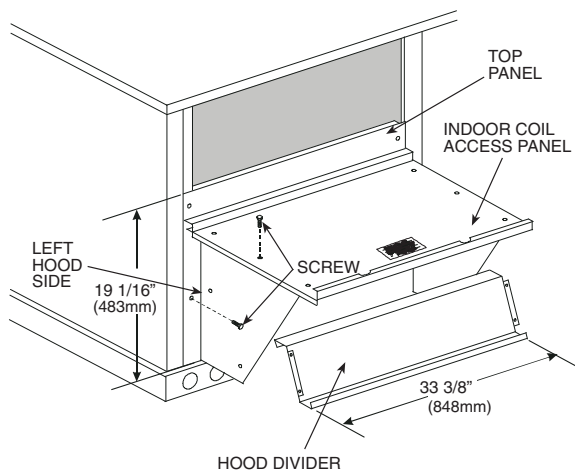

Fig. 18 — Economizer Hood Construction
2. Swing out indoor coil access panel and insert the hood sides under the panel (hood top). Use the screws provided to attach the hood sides to the hood top. Use screws provided to attach the hood sides to the unit. See Fig. 18.
4. Insert the hood divider between the hood sides. See Fig. 18 and 19. Secure hood divider with 2 screws on each hood side. The hood divider is also used as the bottom filter rack for the aluminum filter.
All field wiring must comply with NEC and all local codes. Size wire based on MCA (Minimum Circuit Amps) on the unit informative plate. See Fig. 18 and the unit label diagram for power wiring connections to the unit power terminal blocks and equipment ground. Maximum wire size is #2 ga AWG (copper only) per pole on contactors.